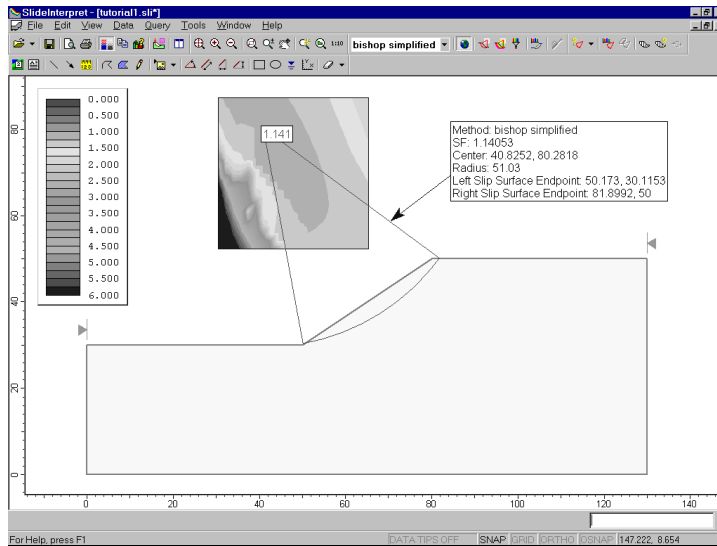

Figure 1-20: Auto-text and arrow added to view.
4. Now select OK. The text is added to the view, and your screen should look similar to Figure 1-20.